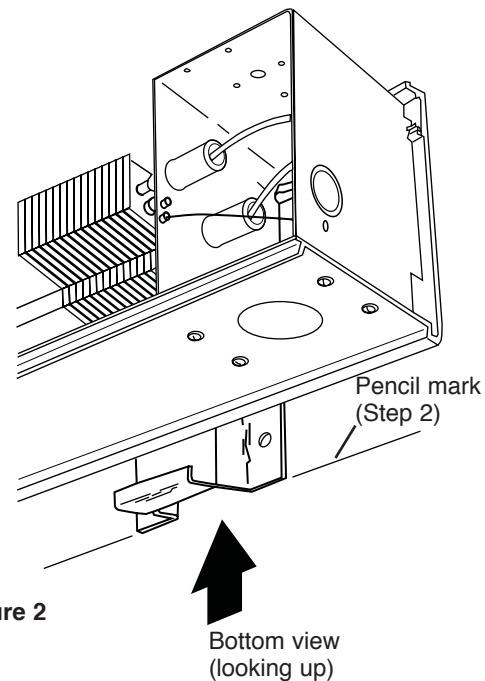

Figure 2
4. Position the Stand-off Bracket on the wall just above the line drawn in Step 2. (See Figure 2.)
5. Securely mount the Stand-off Bracket on the wall using four (4) screws (not provided). Four (4) predrilled holes in the bracket flanges are provided for these screws.
8. Mount the additional brackets in the same manner as before, using four (4) screws through the four (4) pre-drilled holes in the flanges.